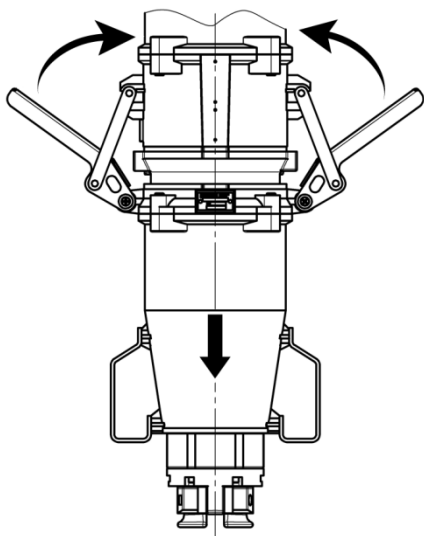

Fig. 67: Opening the locking levers
7. Push the locking levers up (Fig. 67 /Arrows), to open the locking levers.